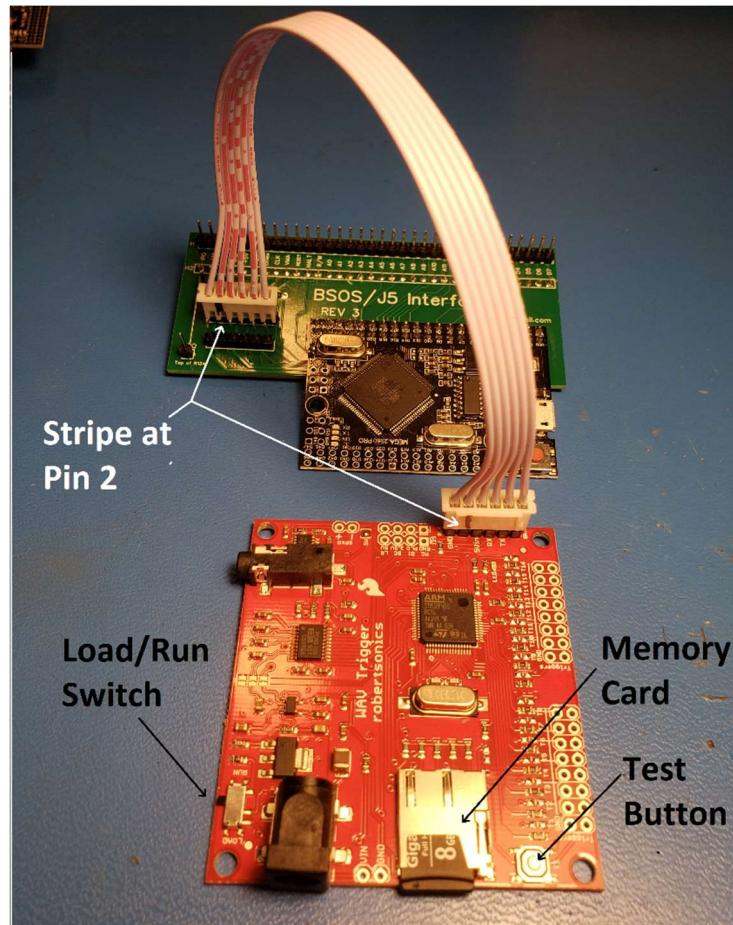

Figure 6
18. Refer to Figure 6 for the next few steps.